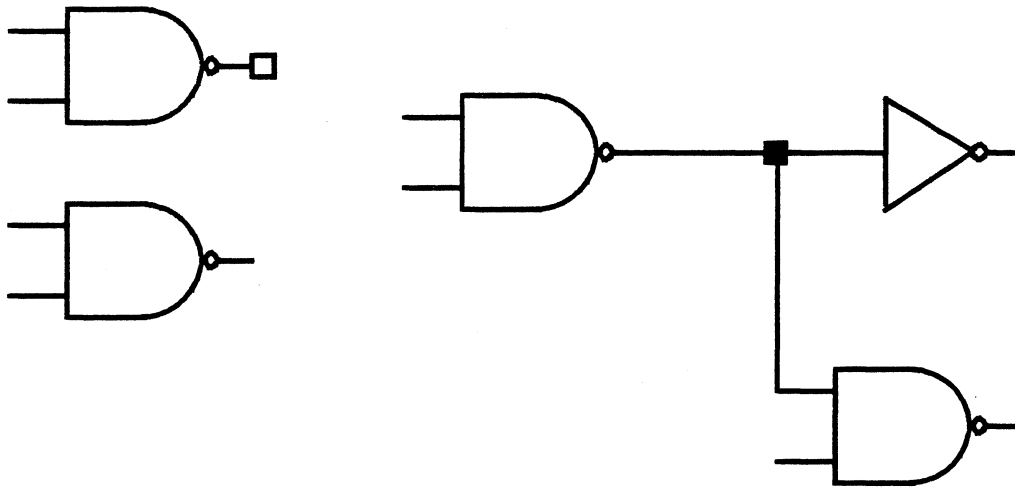

Figure 2.16
- 2) As you move the cursor on the display, the system places a small box at the end of the closest connection point, or along the closest net. Move the box to the first endpoint for your net (either a symbol connection point or a point on a net) and press the left mouse button. The box remains stationary at that point (figure 2.16).